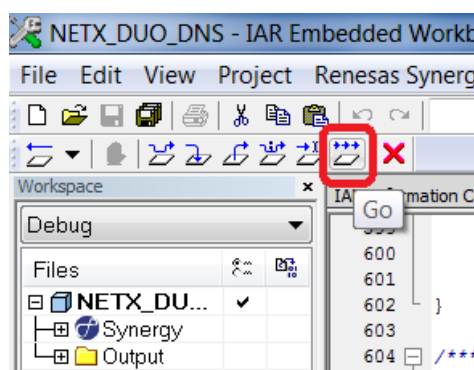

Figure 1.15 Run button
4. Press **F5** or the **Go** button, as shown in Figure 1.15, to start the application.